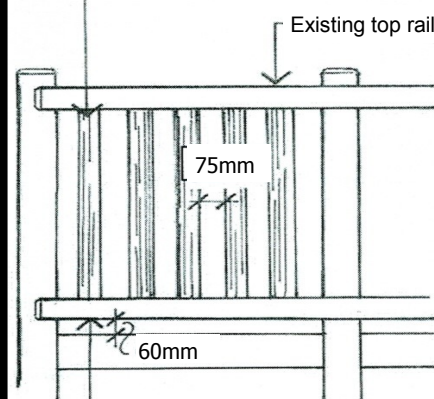

Figure 1
- Do not present a head and neck entrapment hazard. Any opening 600mm or more above surface level must be smaller than 89mm or larger than 230mm. *Kidsafe* recommends a gap smaller than 75mm between vertical rails constructed of timber. Refer to Figure 1.